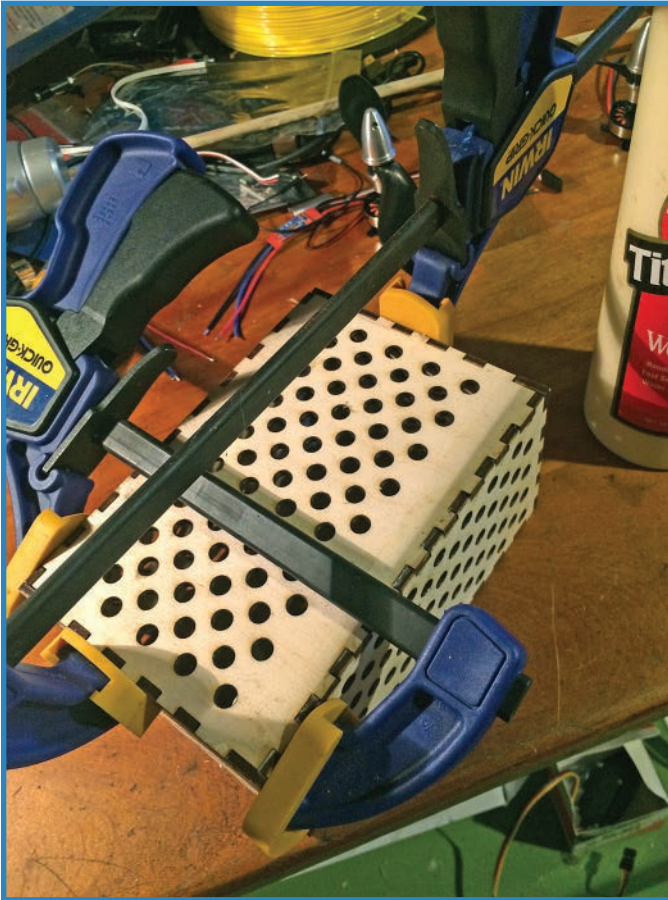

FIGURE 7.6 Assemble, glue, and clamp the chassis box.
1. Assemble the gondola box shown in Figure 7.6. I cut the parts out of 1/8" birch using a laser cutter and then glued and clamped the parts. However, you don't need to get that fancy. Any lightweight box will do.